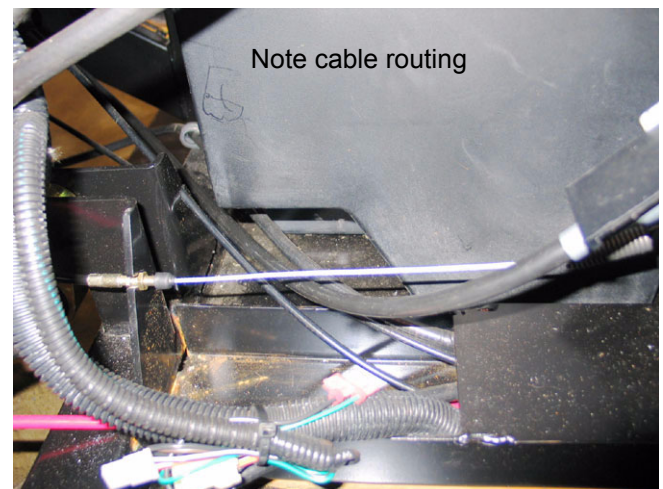

Figure 4.18
- 4.18. The cable can be withdrawn from the vehicle in either direction. See Figure 4.18.